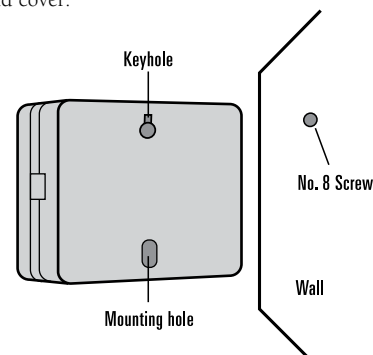

Figure 12b: Mounting the Sprinkler Timer
- Slip the keyhole slot in the back of the sprinkler timer over the extended screw. [See Figure 12b]